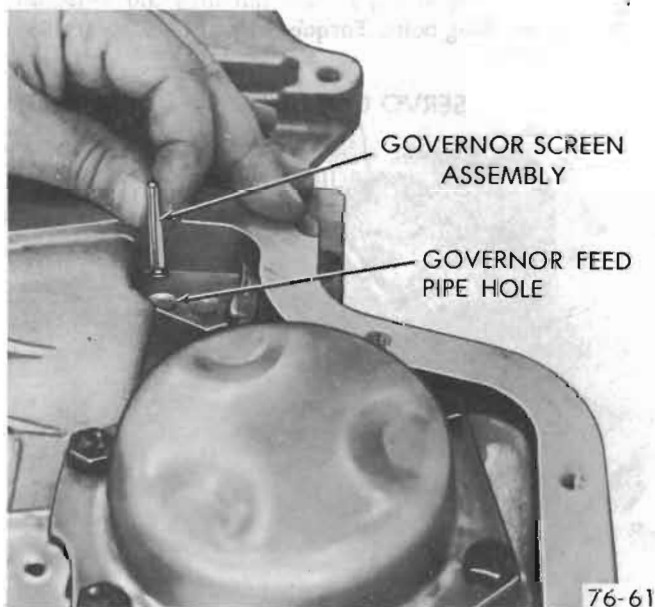

Figure 76-275
2. Install governor screen assembly, *open end first*, into governor feed pipe hole in case (hole nearest the center of transmission). See Figure 76-275.